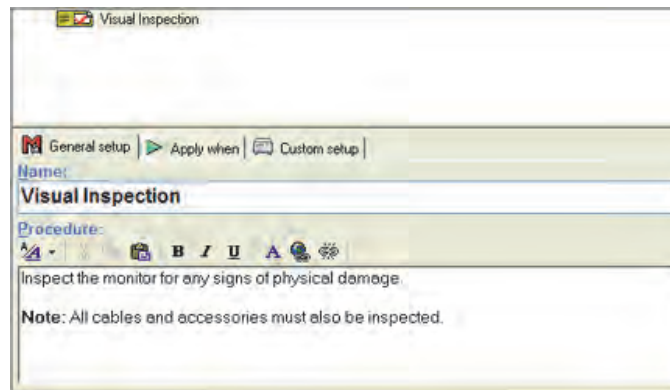

Figure 3-25. Configuring a Test Element
8. Click in the **Procedure** textbox and write a procedure that describes how the test is to be carried out to the field user. See Figure 3-25.